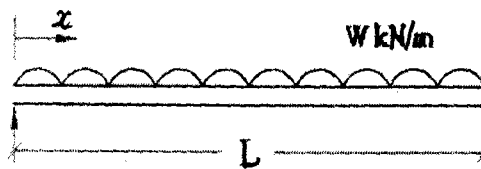

Figure 11/Gambarajah 11
9. (i) A uniform simply supported beam supports a uniform distributive load (UdI) of w KN/m as shown in **Figure 11**.